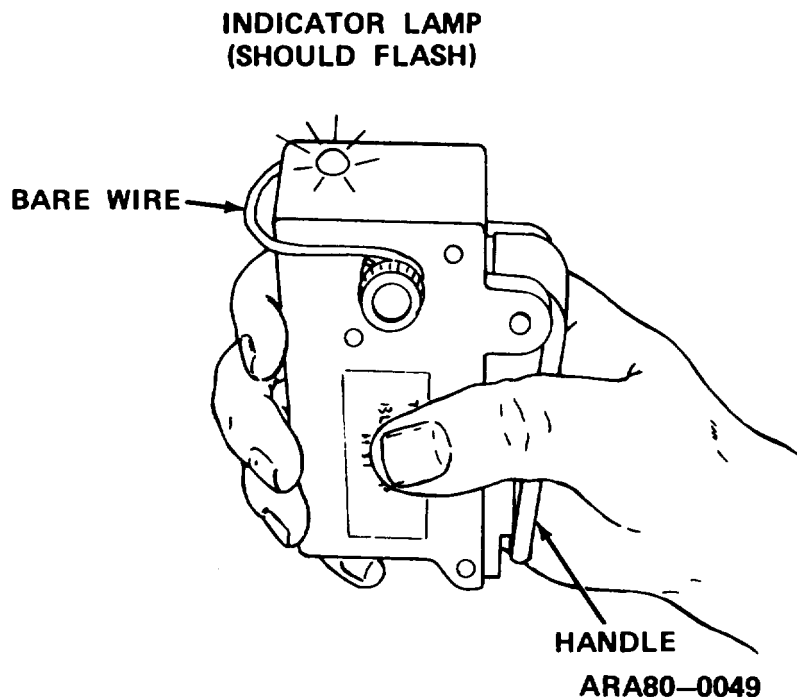

Figure 2-10. Checking Serviceability of M51 Blasting Cap Test Set. (ARA80-0049).
(1) Cut piece of cable, approximately 6 inches long. Strip ends, and connect between binding posts (fig. 2-10).
(2) Firmly depress handle while observing indicator lamp. If set is operative, indicator lamp will flash.
(3) Remove wire and proceed to paragraph 2-5b.
(4) If set is inoperative, requisition new one.